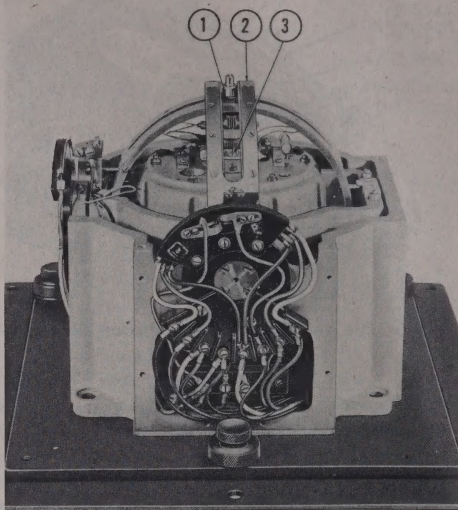

Figure 231 — Testing Bail Fall
(31) CHECK BAIL FALL. (See figure 231.)
(c) With the gyro running, the spindle may be precessed in any direction by applying a slight pressure to the spindle in a direction at 90 degrees to the direction in which the motion of the spindle is desired. First, precess the gyro spindle at right angles to the top bail by pressing in a direction along the line of the top bail. By pressing first to one side and then on the other (figure 231), the gyro spindle may be made to move from one side to the other so that the bail fall in either direction may be observed. Apply only a slight force so that the gyro spindle moves very slowly. The moment that the bail (2) falls against the roller (1), note the position of the bubble (3) on the level vial located under the bail being tested. When the bail falls, the level vial bubble should not read more than 0.7 degree on either side of center. (Each division on level vial indicates 1 degree.) A reading greater than this amount on either side indicates one or more of the following troubles:
3. Incorrect alignment of the spindle will cause improper bail fall. Usually, if this is the case, the point at which the bail falls on one side will be several tenths of a degree more than on the other side. Improper bottom bail fall, due to improper alignment, may result if the test is made when the gyro is not at operating temperature, or if some error was made in aligning the rotor spindle, or if the locked bearing is not tightly locked. (Refer to this section, paragraph 2, e, (14).)